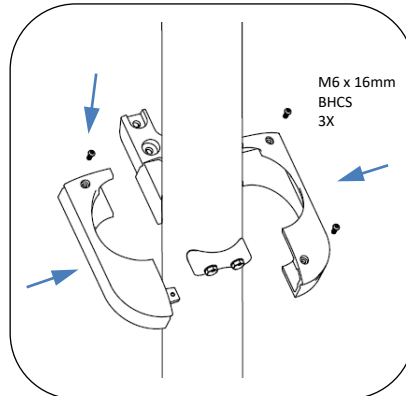

Fig. 10 – Attach bracket for intermediate mount luminaire
2. Install intermediate bracket cover plate with (3) M6 x 16mm button head screws. Tighten with a 4mm hex key. See Fig. 10.